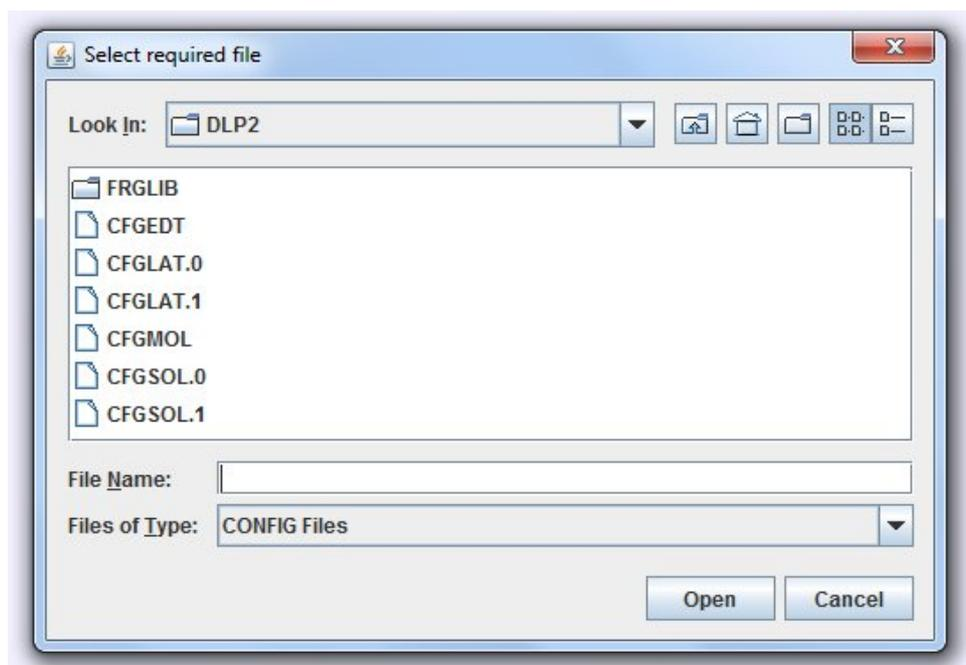

Figure 3. A Typical File Browser
- **New** - opens a file browser (see Figure 3) for the user to select a new configuration file for viewing. This button assumes the configuration file is a DL_POLY CONFIG or REVCON file, but other formats can be processed (see later). The GUI normally performs some pre-selection of the files appearing in the browser to reduce the risk of improper selection.
Selecting one of these will cause the GUI to open a file browser (Figure 3) to enable your selection. (It is analogous to the operation of the **New** button on the Molecular Editor.) The file browser will perform some pre-filtering of file types, based on your sub-menu selection. DL_POLY CONFIG files are assumed to have the `CFG' prefix in the file name (see examples in Figure 3). Note that only one CONFIG file may be loaded at any time. If the Molecular Editor is hidden at this time, this operation will make it visible.